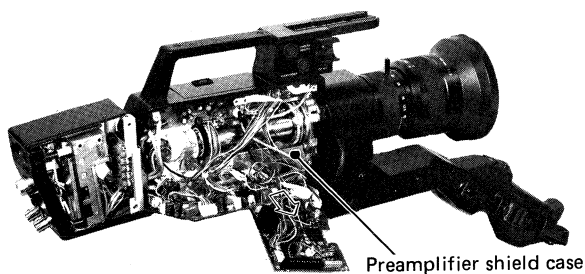

Fig. 3-1-4
- Remove preamplifier shield case by pulling it outward. (Fig. 3-1-4)